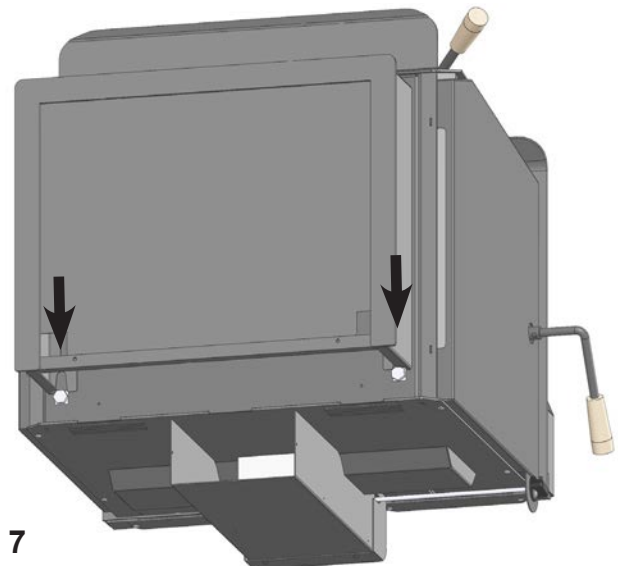

Fig. 7
3. Slide the classic base slots onto the bolts from the previous step. **(Fig. 7)**